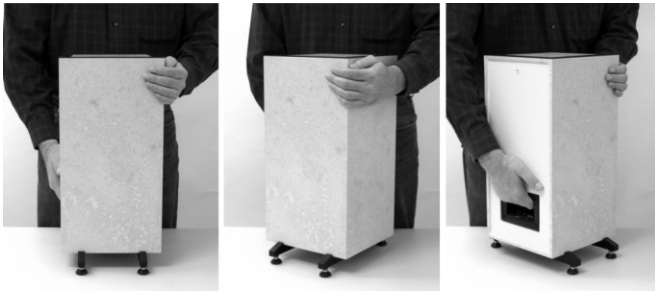

Fig. 5
- 1c. Locate eight (8) Adjustable Feet with locknuts and thread two (2) into each of four (4) Base Supports until snug.
2. Raise two (2) bottom cabinets B and D to their upright position.
- 2a. Locate eight (8) stainless 1/4" x 1" alignment pins.
- 2b. Install four (4) ea. alignment pins into top of cabinet B and D.
- 4a. Using the recessed handle in the back of cabinet B and D insert right or left hand into handle, steady the top of the cabinet with your other hand as noted in *Fig. 5*, carefully perform a test lift to ensure you can safely carry the cabinet. If in doubt, seek help. Once you are satisfied you can carry the weight, carefully lift and move cabinet B and D to its final install location.